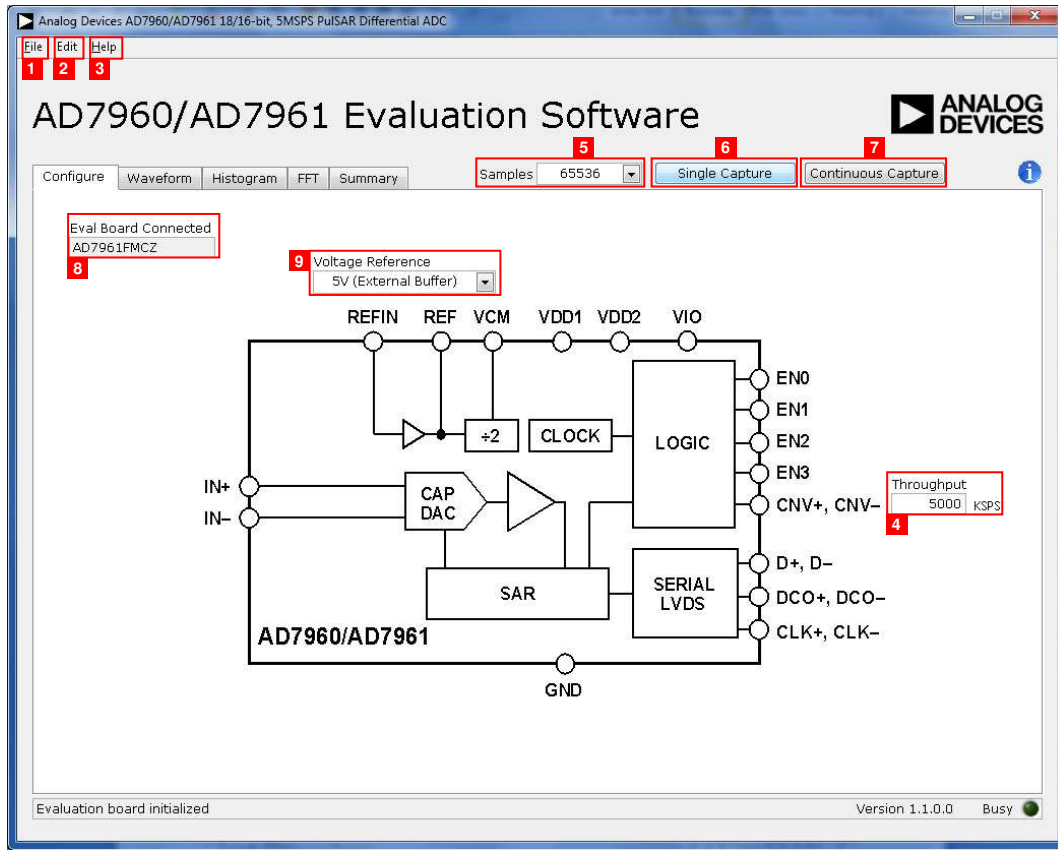

Figure 19. Setup Screen
1. From the **Start** menu, select **Programs>Analog Devices>AD7960\_61 Evaluation Software**. The main window of the software then displays (see Figure 19). If the evaluation system is not connected to the USB port via the EVAL-SDP-CH1Z when the software is launched, a connectivity error displays (see Figure 17).
This section describes the full software operation and all windows that appear. When the software is launched, the panel opens and the software searches for hardware connected to the PC. The user software panel launches as shown in Figure 19. The labels listed in this section correspond to the numbered labels in Figure 19.
The **File** menu, labeled 1 in Figure 19, offers the choice to